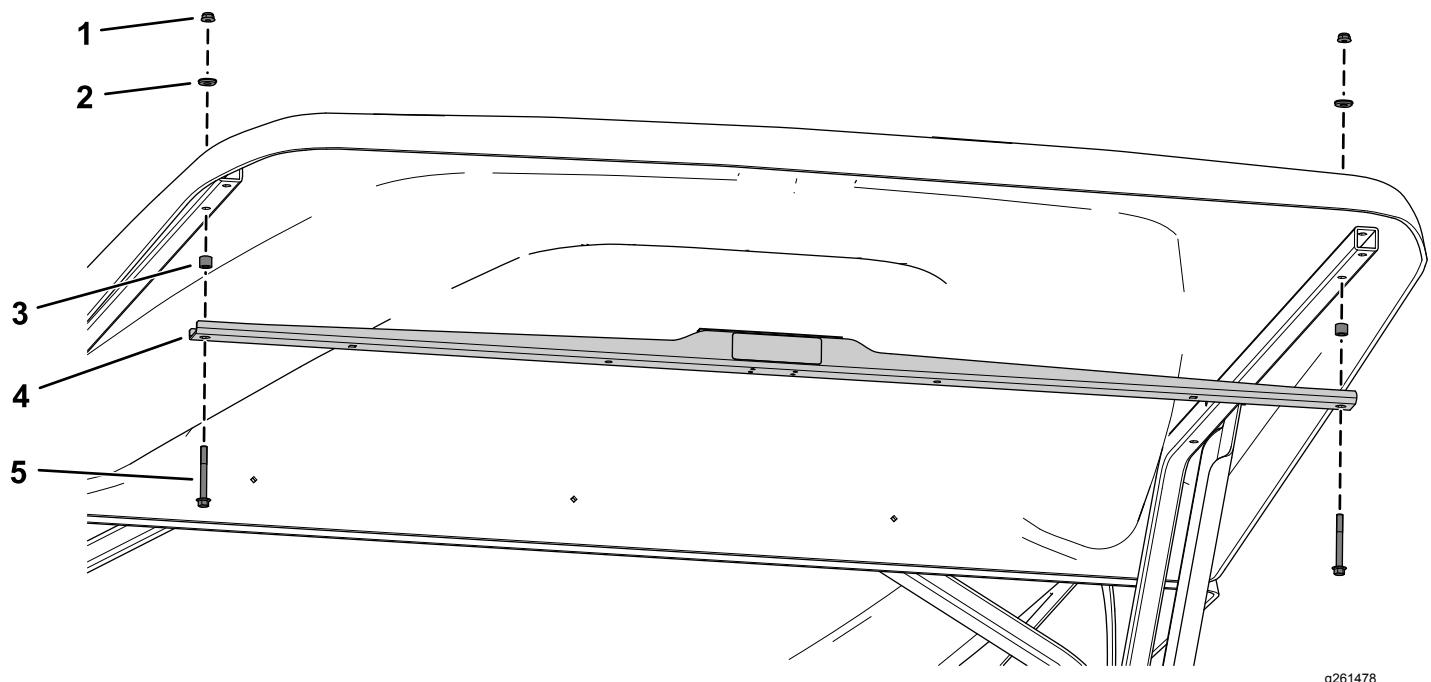

Figure 7
4. Secure the canopy support bracket to the canopy extension using 2 flange-head bolts (1/4 x 2-1/4 inches), 2 spacers, 2 sealing washers, and 2 locknuts (1/4 inch) as shown in Figure 7.